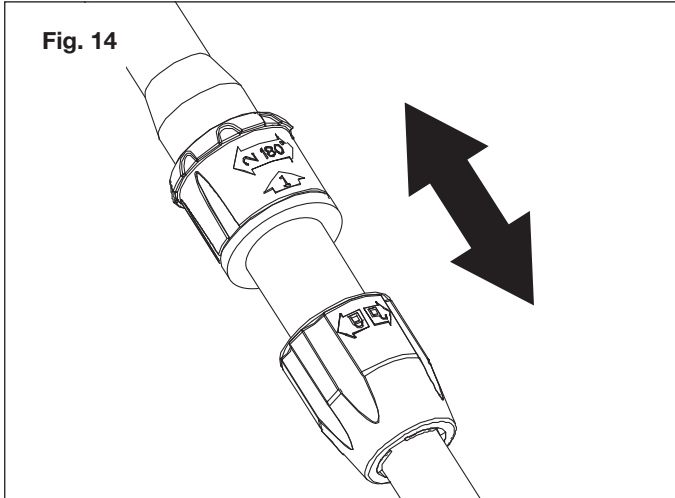

Fig. 14
3. Extend the telescoping tube to a comfortable height (Fig. 14).